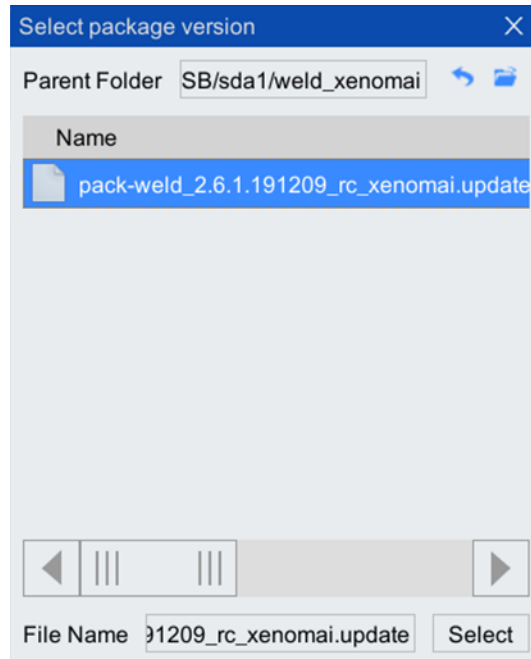

Fig. 3-4 Selection interface of install feature pack
Step 6. Double-click "USB" folder, find the arc welding package installation file under the USB folder, enter the interface shown in Fig. 3-4, and then click "Select" button.